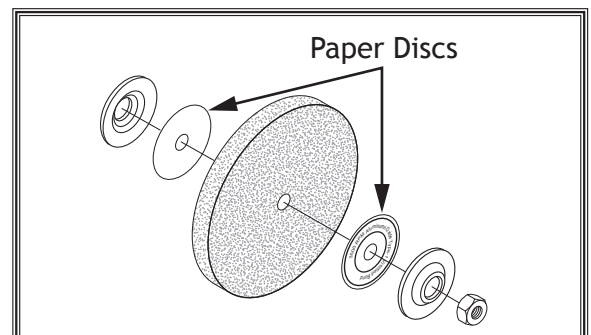

Figure 20. Assembly order for wheel installation.
7. Mount new grinding wheel, as shown in Figure 20. Tighten M16-2 hex nut snugly but do not over-tighten. Over-tightening can stress and crack wheel.